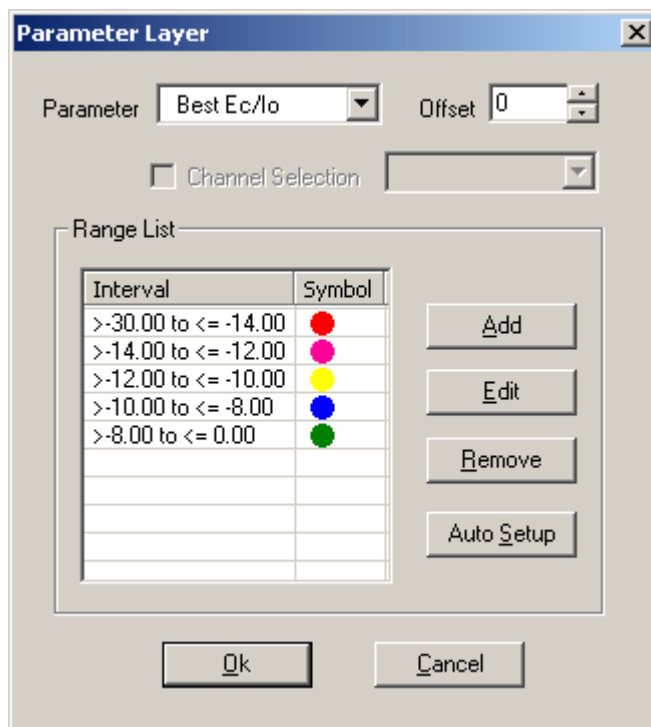

Figure 9-3 Parameter Layer dialog box
- 2) Choose **Edit Layer** to edit the layer, as shown in Figure 9-3.